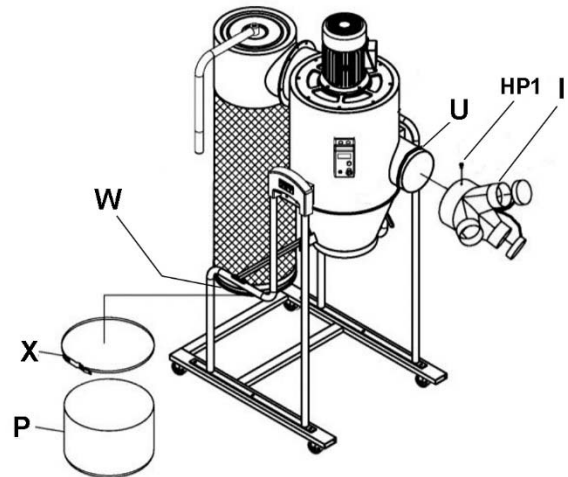

Figure 10
11. Apply foam tape (U) around inlet port near edge. See Figure 10. The foam tape should completely encircle the port.
12. Install inlet adaptor (I) on main housing and secure with pan head screw (HP1).
13. Apply foam tape (W) just above lower lip of canister filter. The foam tape should completely encircle the canister filter.
14. Install collection bag (P) to bottom of canister filter and secure with steel bag clamp (X).